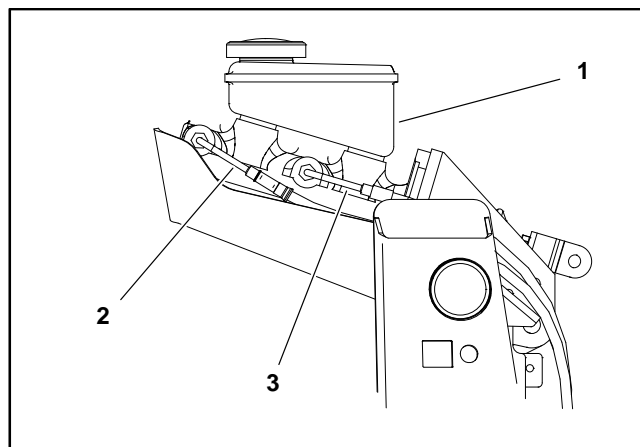

Figure 11
1. Position master cylinder to vehicle frame and secure with two (2) flange head screws and flange nuts.
2. Remove plugs from brake lines. Install brake lines to master cylinder. Make sure that brake lines are properly connected to master cylinder (Fig. 11).